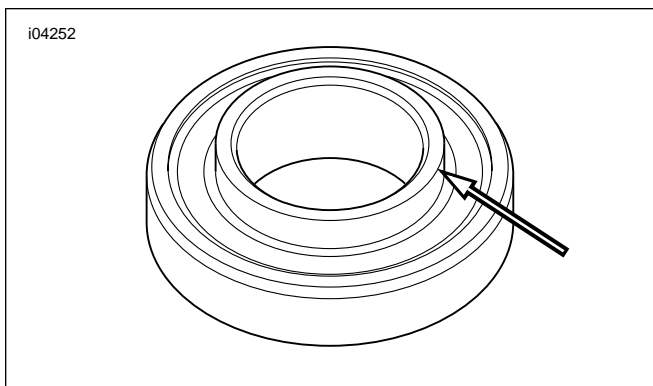

Figure 2-79. Steering Head Bearing Lip
- a. See Figure 2-79. Place the upper bearing squarely in the steering stem bore with the inner race lip pointing away from the steering head.